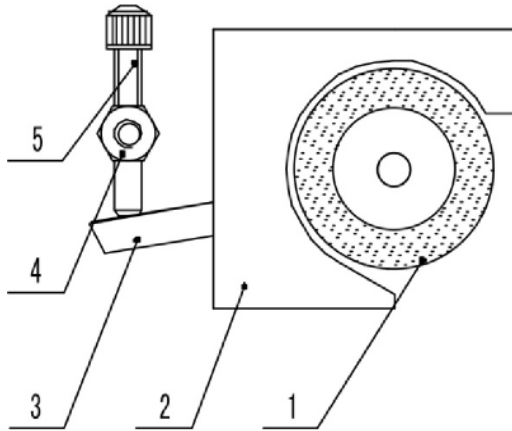

Figure 22. (1) Ink Roller, (2) Ink Roller Heating Block, (3) Swing Pole, (4) Adjusting Strut, (5) Ink Wheel Adjusting Device
6. **Make Adjustments to Ink Wheel Adjusting Device.** As the print wheel rotates, check that the printing wheel makes contact with the ink roller. Make adjustments using the ink wheel adjusting device (Figure 22, Item #5) if necessary. Turning the adjusting screw clockwise will move the ink roller away from the print wheel and turning the adjusting screw counterclockwise will move the ink roller closer to the print wheel.